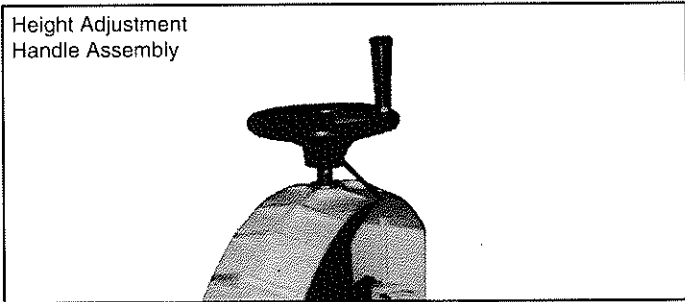

Figure 7
3. Lower the Height Adjustment Handle Assembly onto the Height Adjustment Shaft and tighten the set screw with the supplied 4 mm Hex Wrench Key. (See Figure 7.)